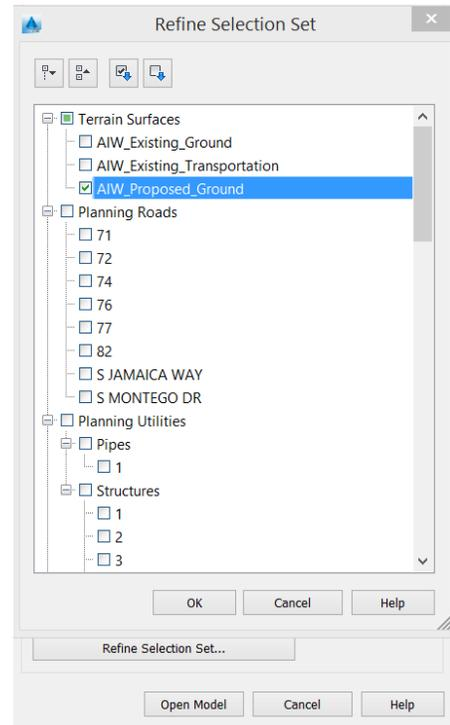

Figure 20
- Click **Refine Selection Set**. Select the **AIW\_Proposed Ground** and review all the other selections, as shown in Figure 20. Click **OK**. Then click **Open Model** to see the results in AutoCAD Civil 3D.